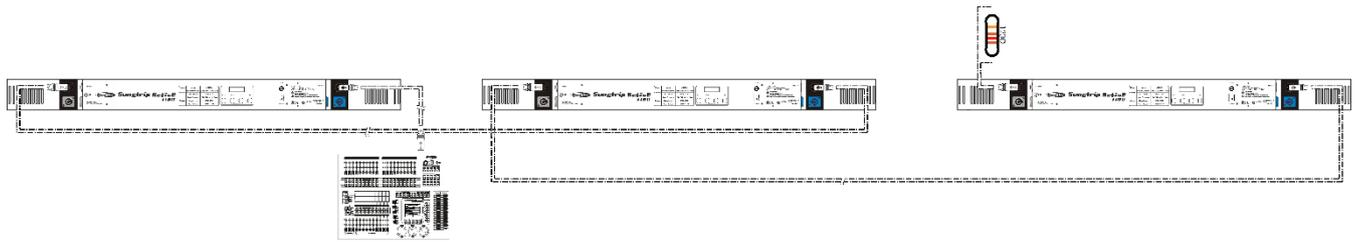

Fig. 09
- 04) Link the units as shown in Fig. 09. Connect the first unit's DMX "out" socket with the second unit's "in" socket, using a DMX-signal cable. Repeat this process to link the second and third units.